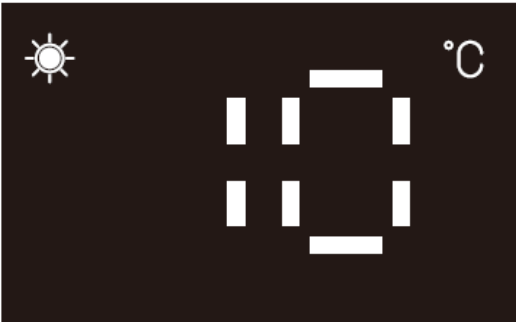
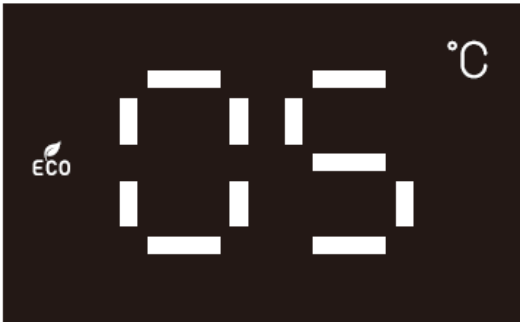

Fig.10a: Comfort Mode temperature setting range
Fig.11a: Economy Mode temperature setting range
3. Temperature Setting: Press the Up  or Down  button to adjust the temperature within the range of 5-50°C. In **Comfort Mode** , the temperature range is 10-50°C (see Fig.10a,10b), while in **Economy Mode** , the range is 5-45°C (see Fig.11a,11b). This means the temperature setting in Comfort Mode is 5°C higher than in Economy Mode. For example, if the temperature is set to 25°C in Comfort Mode, it will automatically adjust to 20°C when switching to Economy Mode. In **Frost Protection Mode** , the temperature is fixed at 6°C. In this mode, the heater operates when the ambient temperature is below 5°C and stops when it exceeds 7°C.